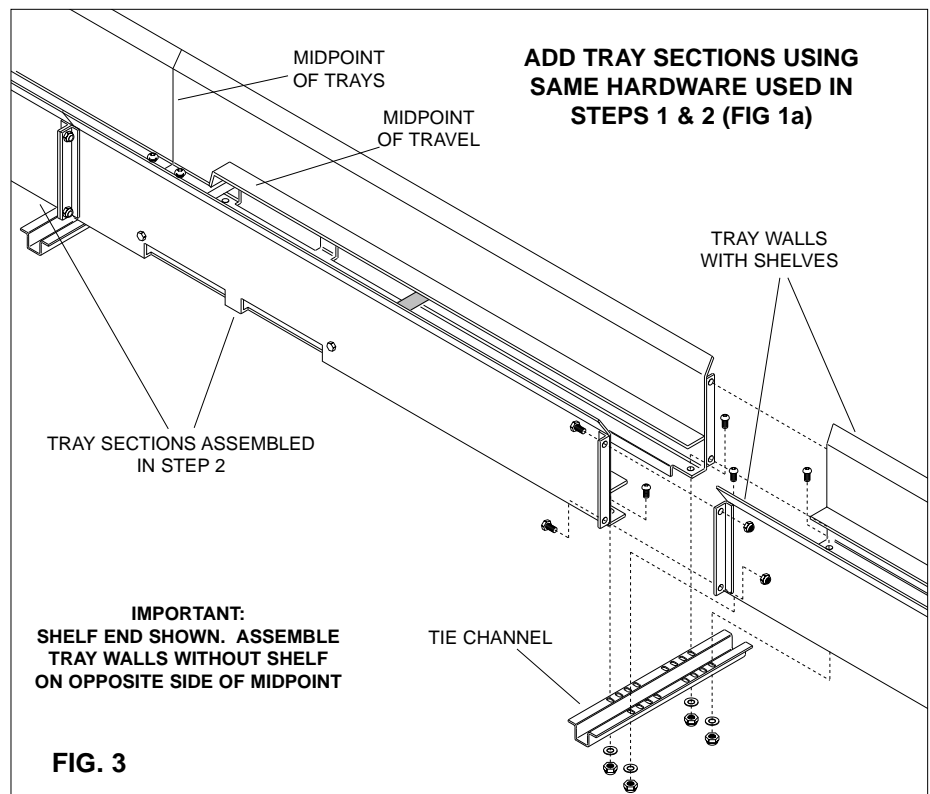

FIG. 3
STEP 4: Attach additional tray walls **without shelves** to trak end of assembled tray sections and tray walls **with shelves** to opposite end. (See Fig. 3). Typically, the quantity of tray sections extending from the joint nearest the travel midpoint is equal in both directions. Short tray sections, if any, go at extreme ends. Consult the General Arrangement Drawing for correct overall length. **DO NOT** fully tighten screws at this time.